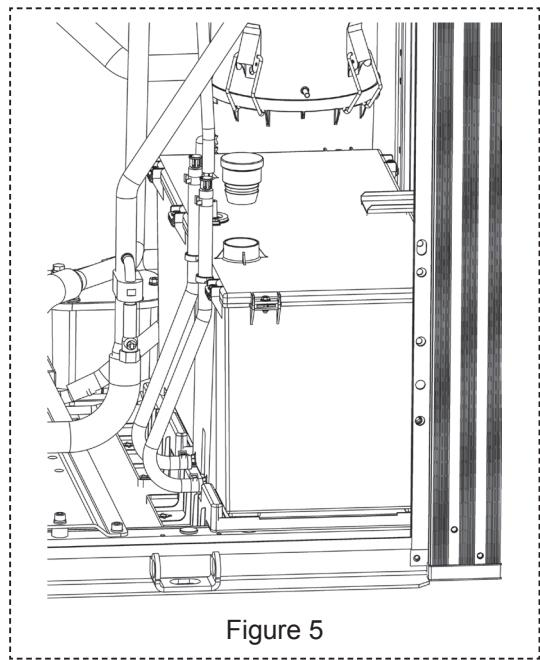

Figure 5
- 3) Open the cap of the oil tank (Figure 5).